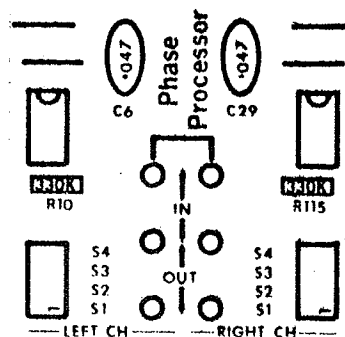

FIGURE 2-5 ATTENUATOR SWITCH LOCATION
The SPP-800 is shipped from the factory with the input attenuators set at an input gain range of -5dbm to +20dbm. If during the calibration procedure described in Paragraph 2.3.2 or 2.3.3 it is determined that the input control attenuators do not have enough gain you will need to adjust the settings of the internal mini dip switches. (Refer to Figure 2-5 for switch location) If the input level entering the SPP-800 is between 0dbm and -20dbm the mini dip switches must be set in the medium sensitivity setting. If the input level is between -10dbm and -30dbm the mini dip switches must be set in the high sensitivity setting. Table 2.3 will define the proper switch settings for setting the gain of the SPP-800 in the medium or high sensitivity setting.
5. Locate the internal mini dip switches. (Refer to Figure 2-5 for switch location)